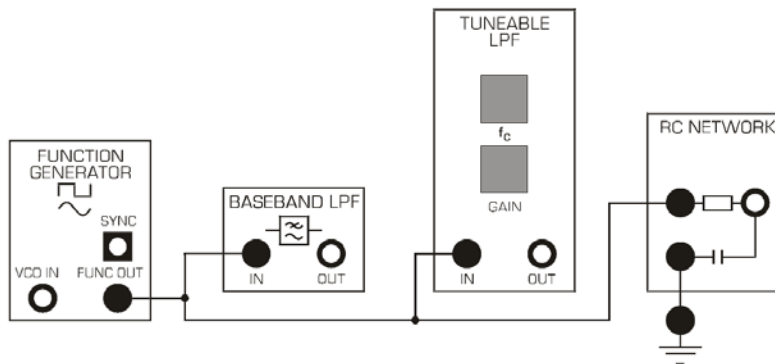

Figure 1-7 Patching Diagram for Sinewave Input.
1. Connect the FUNC OUT output from the FUNCTION GENERATOR to the inputs of the systems under investigation (See Figure 1-7).